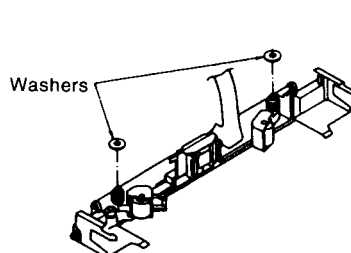

Fig. 6
4. Remove 2 washers. (See Fig. 6.)